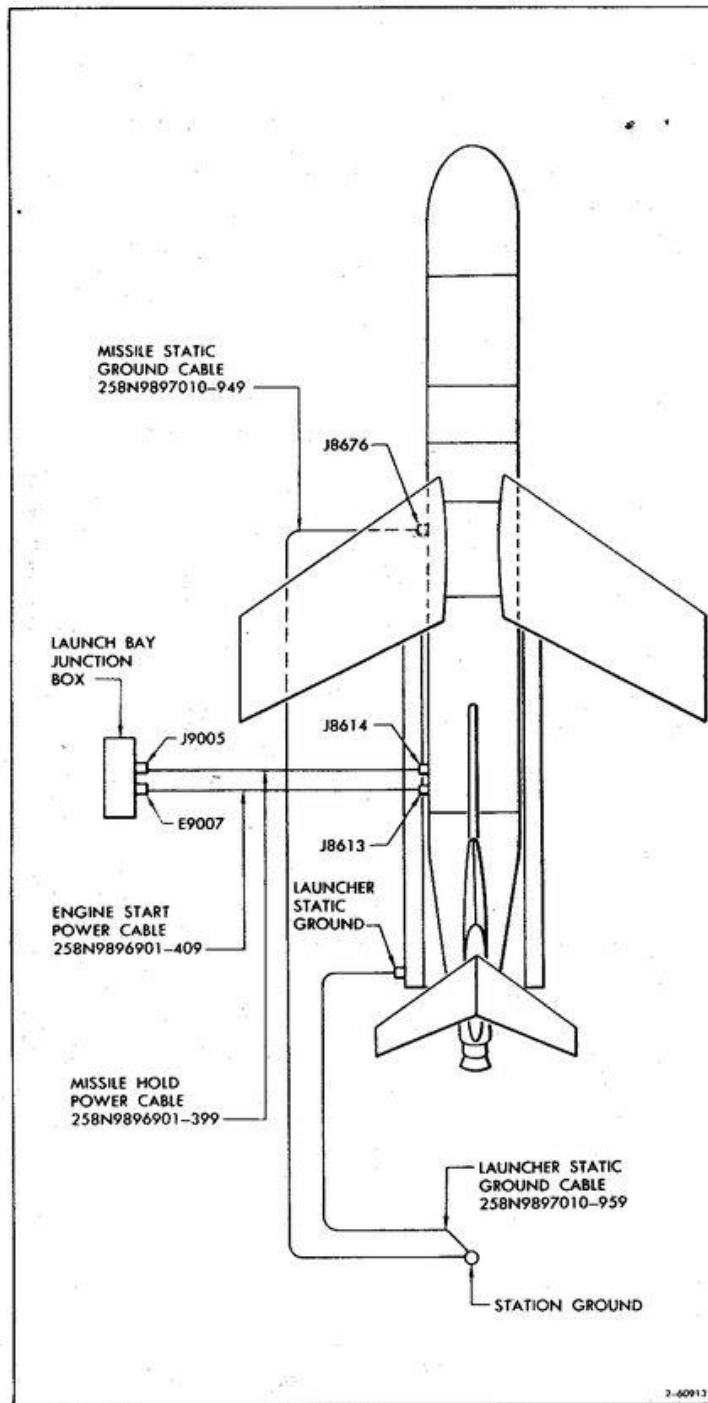

Figure 3-1. External Power and Static Ground Connections
- b. Connect missile static ground cable -949 between COMMON GROUND receptacle J8676 on left side of Center Section and static ground stud on floor of Launch Bay aft of Rocket Motor. (See figure 3-1.)
- a. Connect Missile hold power cable between J9005 on Launch Bay Junction Box and J8614 on Missile. (See figure 3-1.)